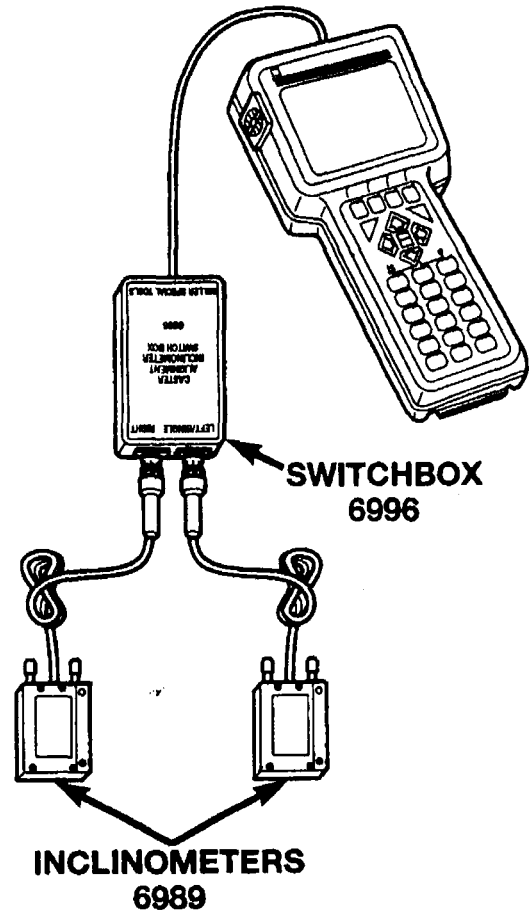

Figure 54
- c. Attach the two inclinometers (Special Tool #6989) to the switch box (Special Tool #6996) (Figure 54).